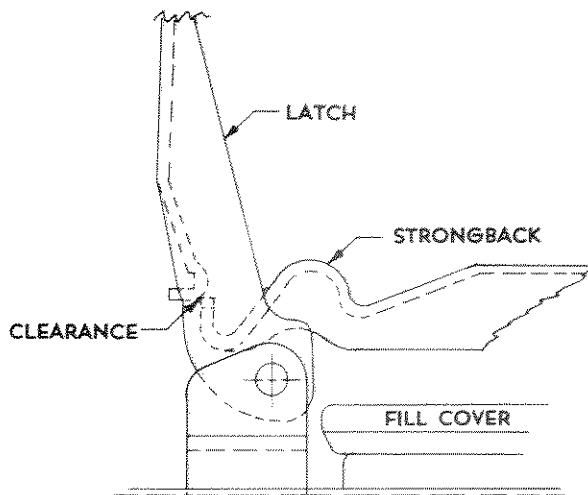

FIG. 2
- (2) With the fill cover laying in the closed position, loosen or tighten bolt in center of strongback until latch just clears the secondary latch on the end of strongback. See Fig. 2.